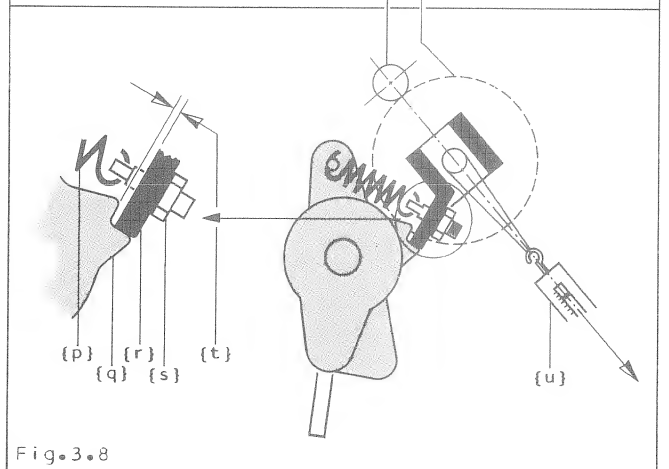

Fig.3.8
- Hook spring dynamometer 0...2.5kg) to corresponding pinch roller shaft. -> Fig.3.8